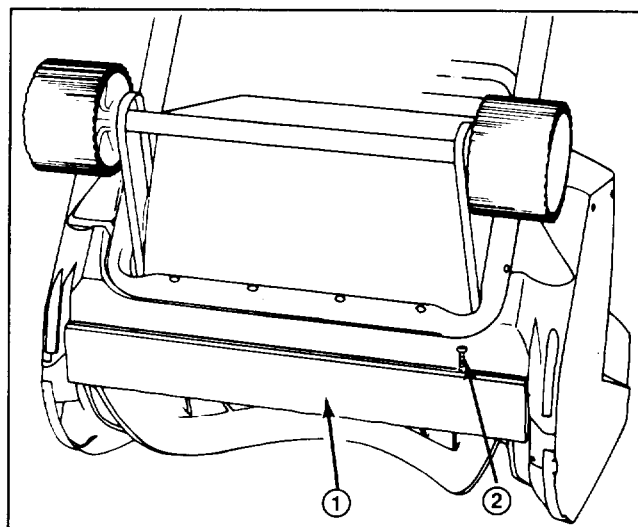

Figure 8
#### Screw On Scraper (Fig. 8)
2. Install new scraper using (2) screws (Fig. 8).